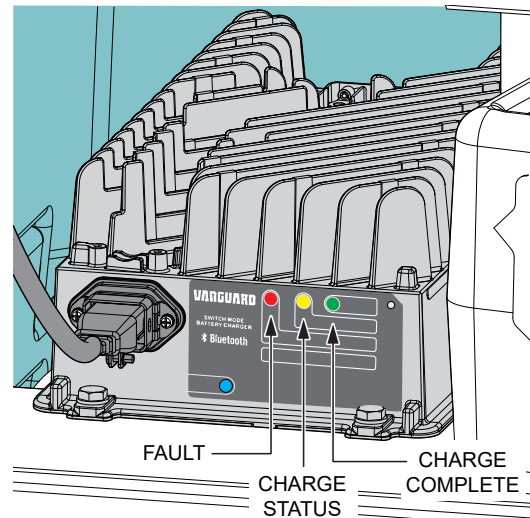

**Figure 40. Charging Display**
- Confirm that the digital display indicates that the battery is charging (Figure 40).